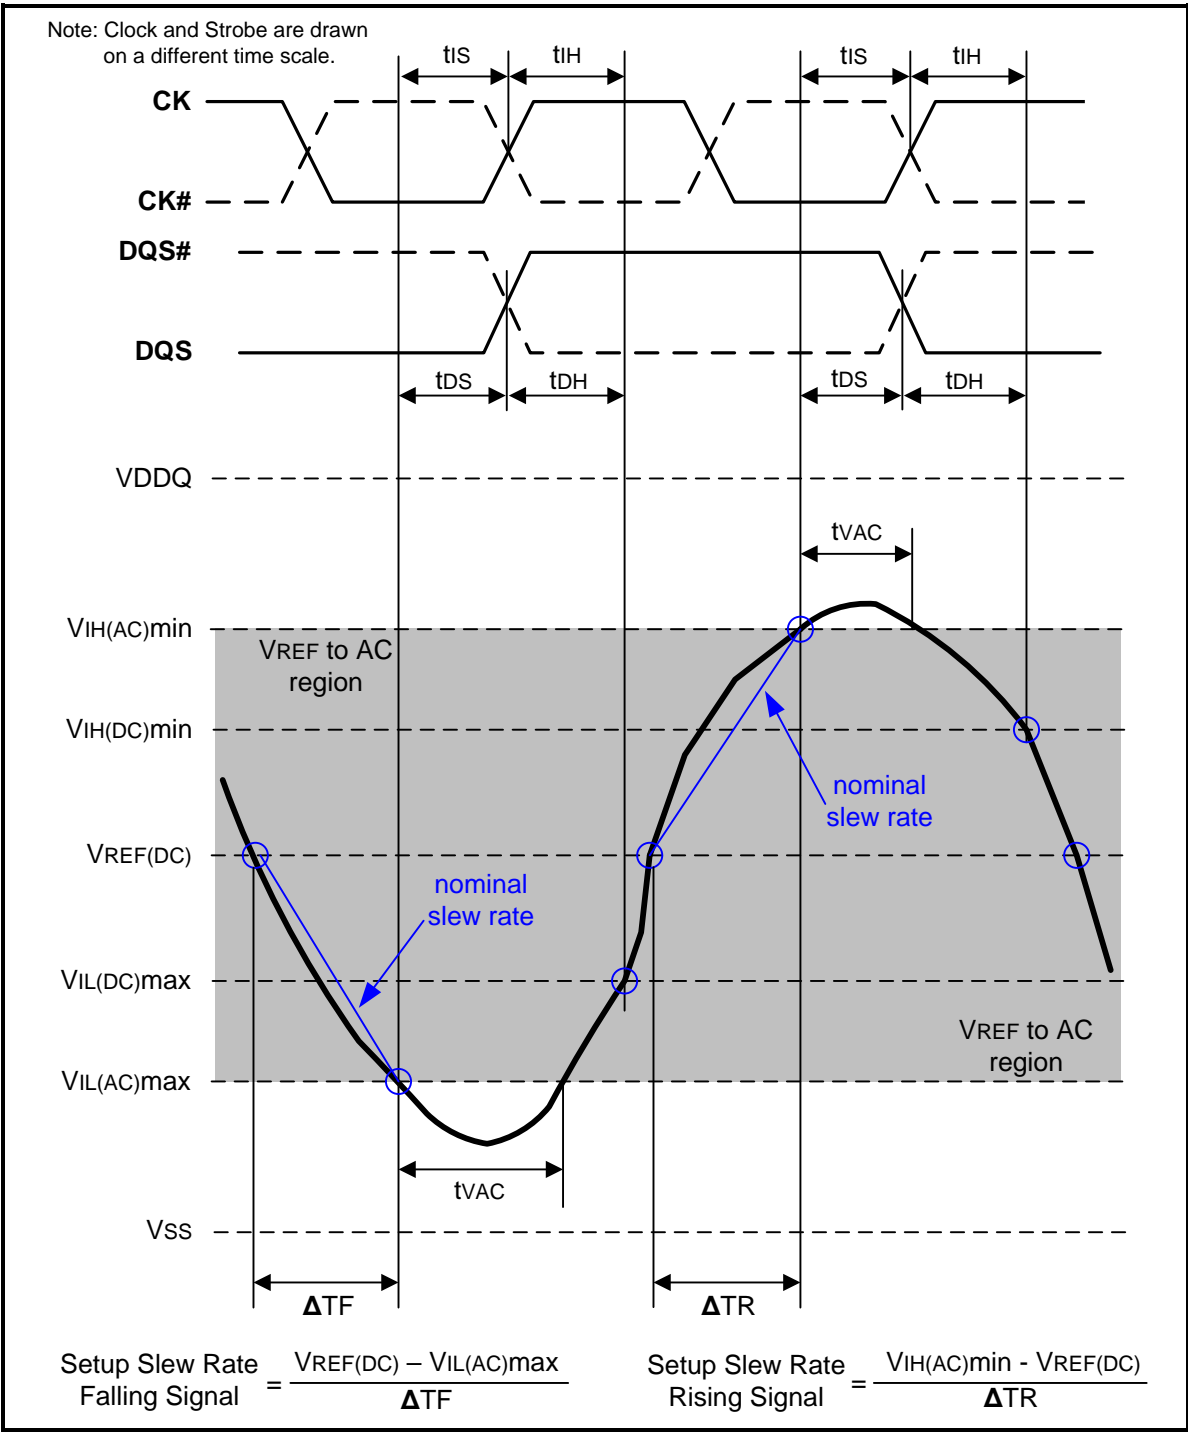
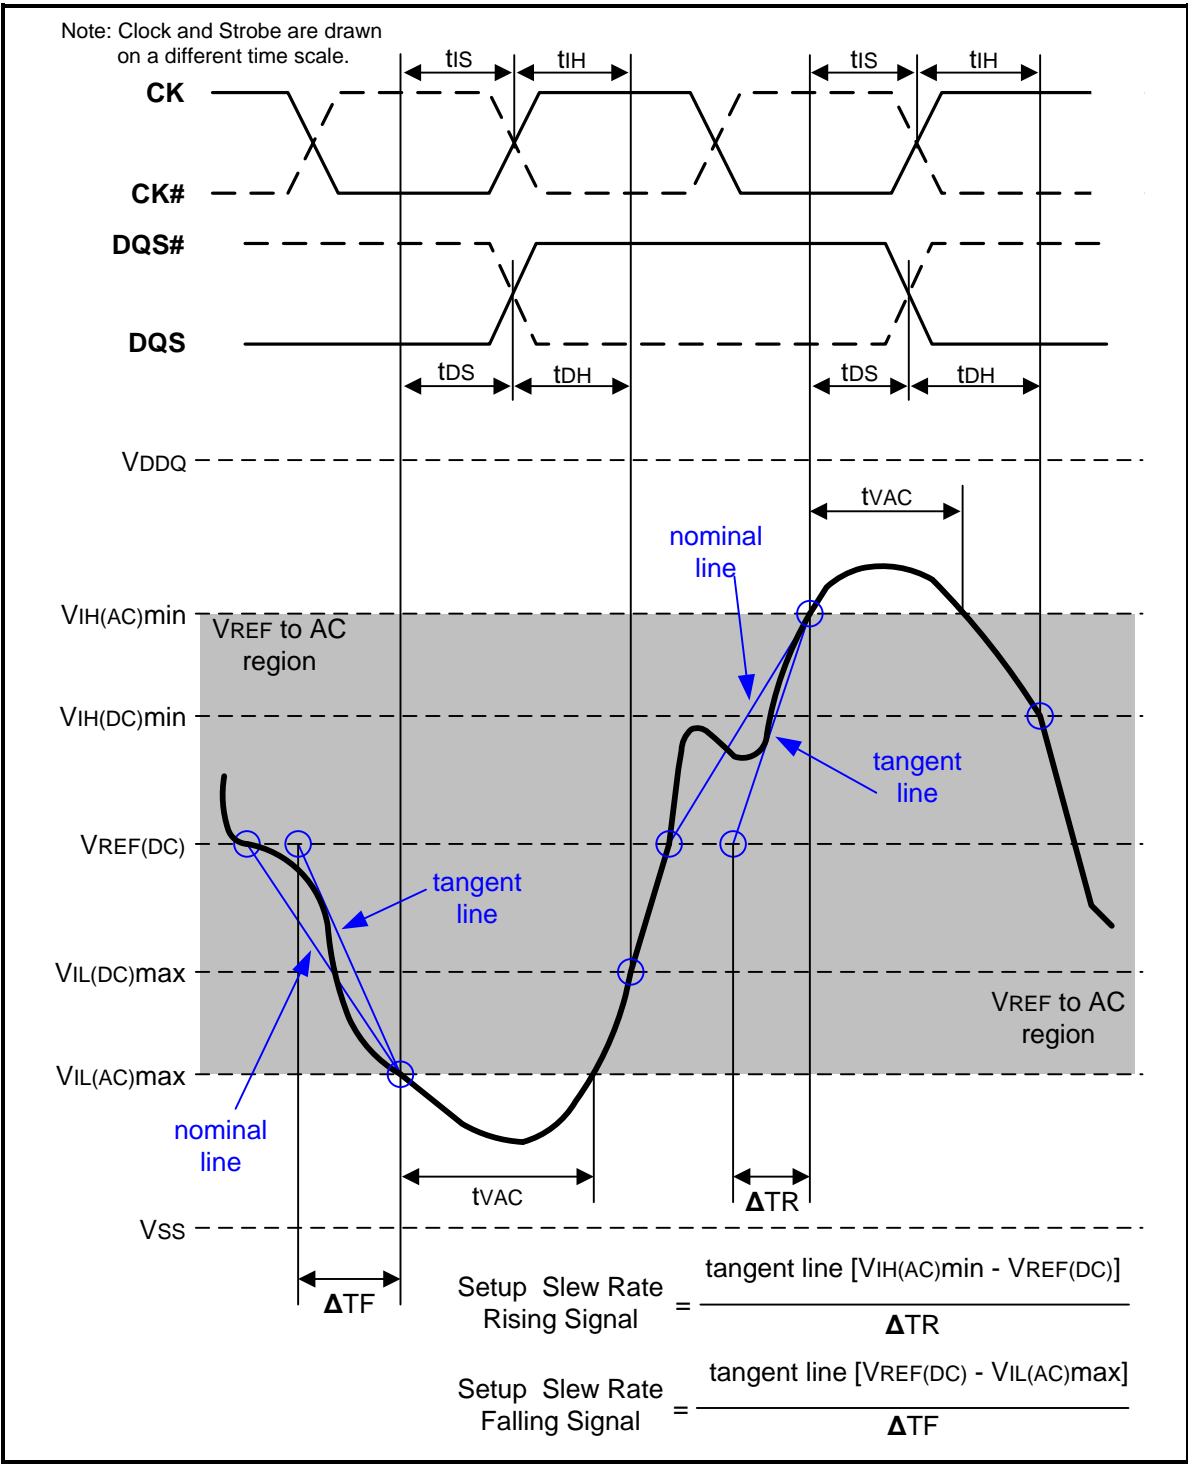

Figure 107 – Illustration of nominal slew rate and t_{VAC} for setup time t_{DS} (for DQ with respect to strobe) and t_{IS} (for ADD/CMD with respect to clock)
Figure 109 – Illustration of tangent line for setup time t_{DS} (for DQ with respect to strobe) and t_{IS} (for ADD/CMD with respect to clock)
Setup (t_{IS}) nominal slew rate for a rising signal is defined as the slew rate between the last crossing of $V_{REF(DC)}$ and the first crossing of $V_{IH(AC)min}$. Setup (t_{IS}) nominal slew rate for a falling signal is defined as the slew rate between the last crossing of $V_{REF(DC)}$ and the first crossing of $V_{IL(AC)max}$. If the actual signal is always earlier than the nominal slew rate line between shaded 'VREF(DC) to AC region', use nominal slew rate for derating value (see Figure 107). If the actual signal is later than the nominal slew rate line anywhere between shaded 'VREF(DC) to AC region', the slew rate of a tangent line to the actual signal from the AC level to $V_{REF(DC)}$ level is used for derating value (see Figure 109).
Setup (tDS) nominal slew rate for a rising signal is defined as the slew rate between the last crossing of VREF(DC) and the first crossing of VIH(AC)min. Setup (tDS) nominal slew rate for a falling signal is defined as the slew rate between the last crossing of VREF(DC) and the first crossing of VIL(AC)max (see Figure 107). If the actual signal is always earlier than the nominal slew rate line between shaded 'VREF(DC) to AC region', use nominal slew rate for derating value. If the actual signal is later than the nominal slew rate line anywhere between shaded 'VREF(DC) to AC region', the slew rate of a tangent line to the actual signal from the AC level to VREF(DC) level is used for derating value (see Figure 109).